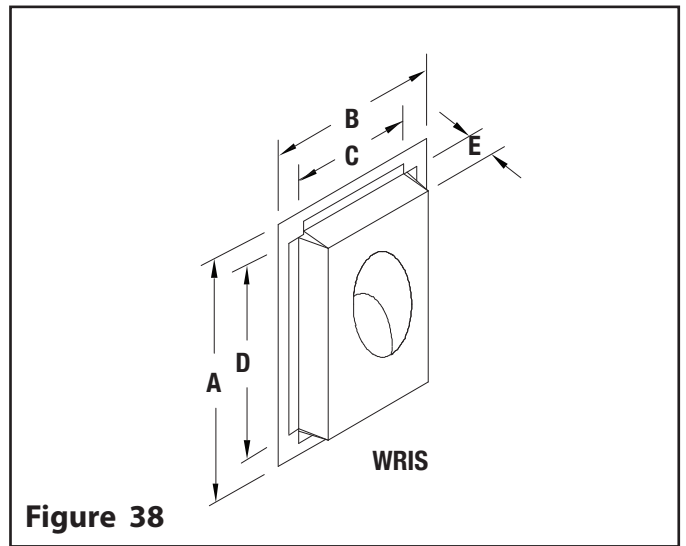

Figure 38
**ANGLED INSULATED RADIATION SHIELD (WRIS30/WRIS45)** have been designed for use when UltimatePlus is connected to a certified factory-built fireplace which passes through a wall at an angle (see Figure 38 and Table 10).
Table 10 - Refer to Figure 38